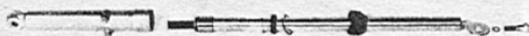

Fig. 41
4. Pull upper and lower fork tubes apart. (Figure 41)